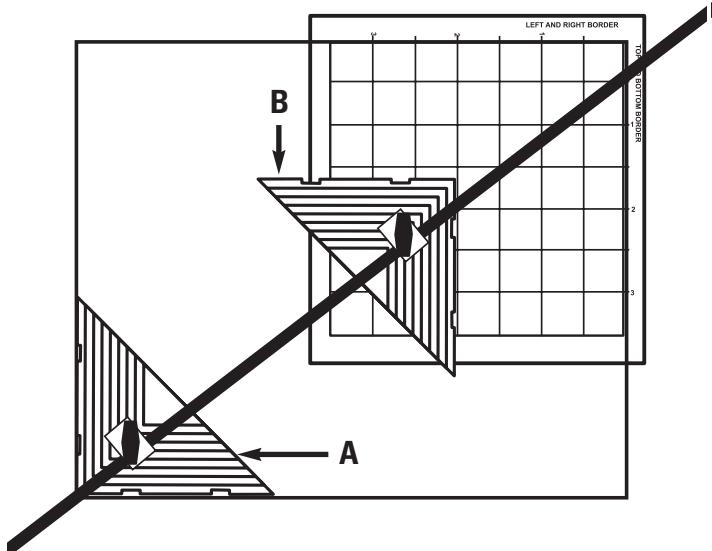

Fig.9
Step 5 – For the left and right borders on your mat board, trace the vertical edge of Triangle B to the scale along the top of the Border Guide. Write down this measurement. (Fig.9)